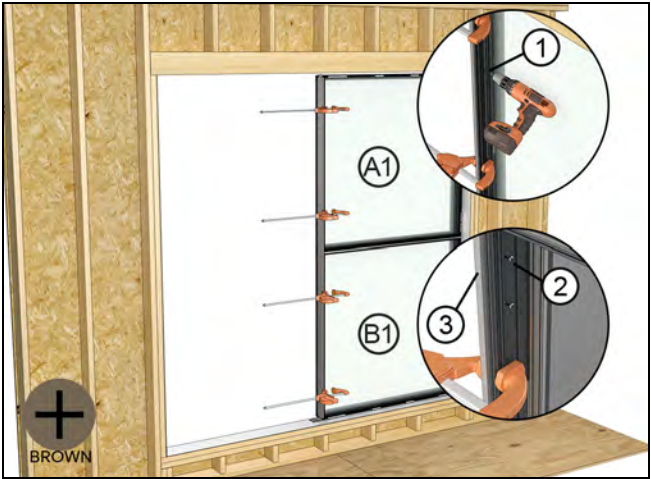

Figure 51
17. Using the pre-drilled installation holes in the frame as a guide, drill through the steel with a #23 bit and driver. Fasten the steel to the frame with the included #8-32 x 1/2" trilobular screws See Figure 51.